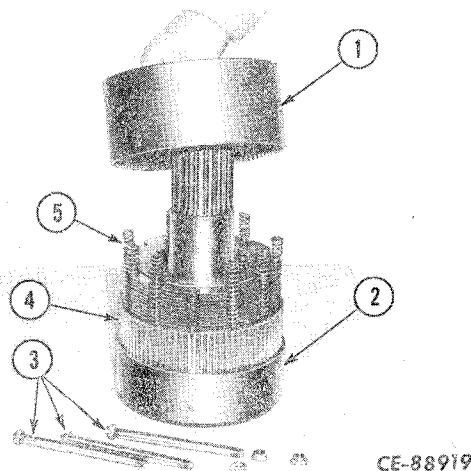
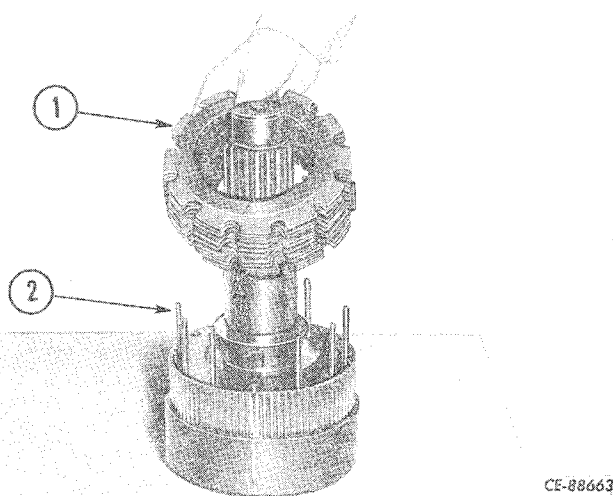

Figure 4-110
Figure 4-111
Remove the studs, or socket head cap screws, (3, Fig. 4-110) and slowly loosen the "C" clamps to release the spring tension on the backing plates (1 and 2). Before removing the backing plate (1), chalk-mark both backing plates and the cylinder (4) for timing at assembly. (There are also punch marks on the backing plates and cylinder splines for timing if the chalk-marks are rubbed off.)
Remove the springs (5, Fig. 4-110) from the spring guides (2, Fig. 4-111). Remove the clutch discs (1).